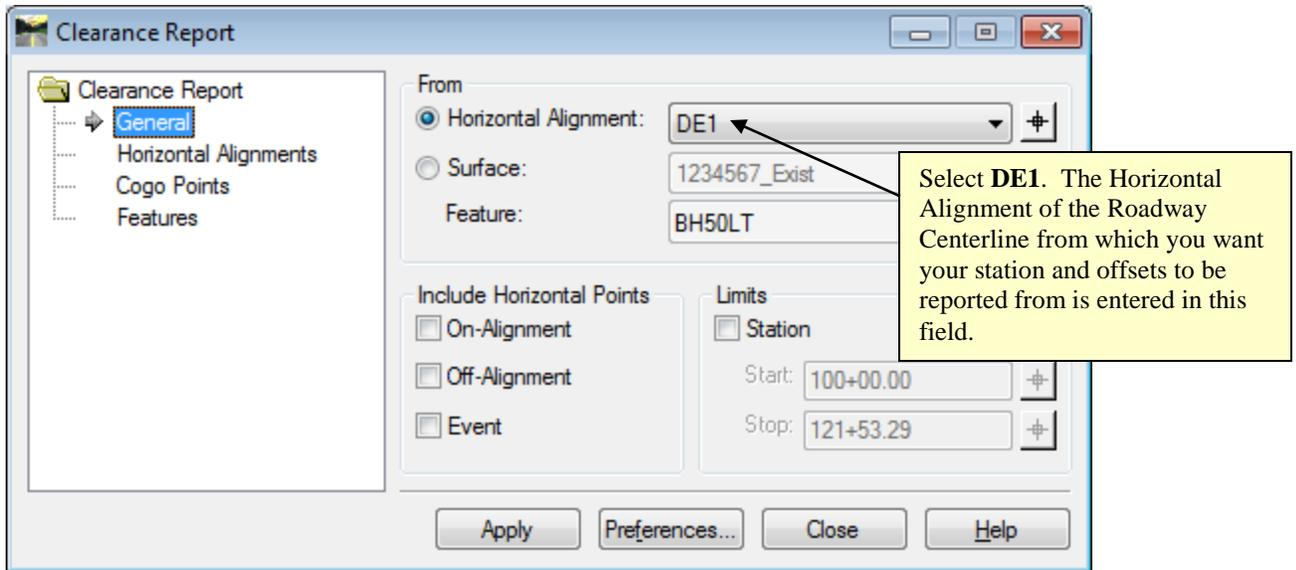

Figure L3-19 Clearance Report
- Select the **General** leaf and match the settings shown in *Figure L3-19*.